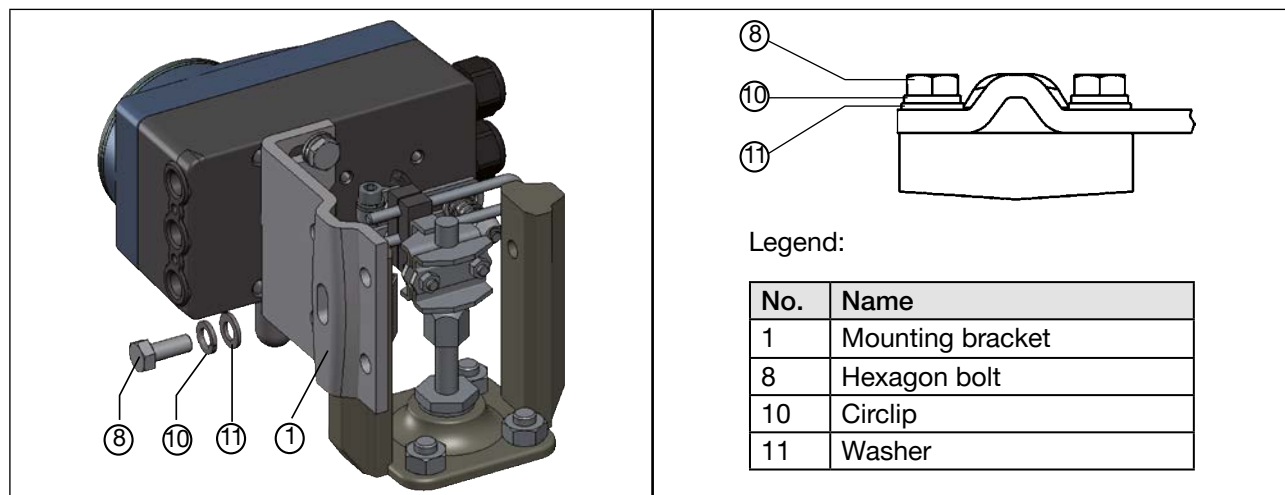

Fig. 16: Attach Type 8792/8793 with mounting bracket; for actuators with cast frame
→ Attach mounting bracket to the cast frame with one or more hexagon bolts ⑧, washers ⑪ and circlips ⑩ (see “Fig. 16”).